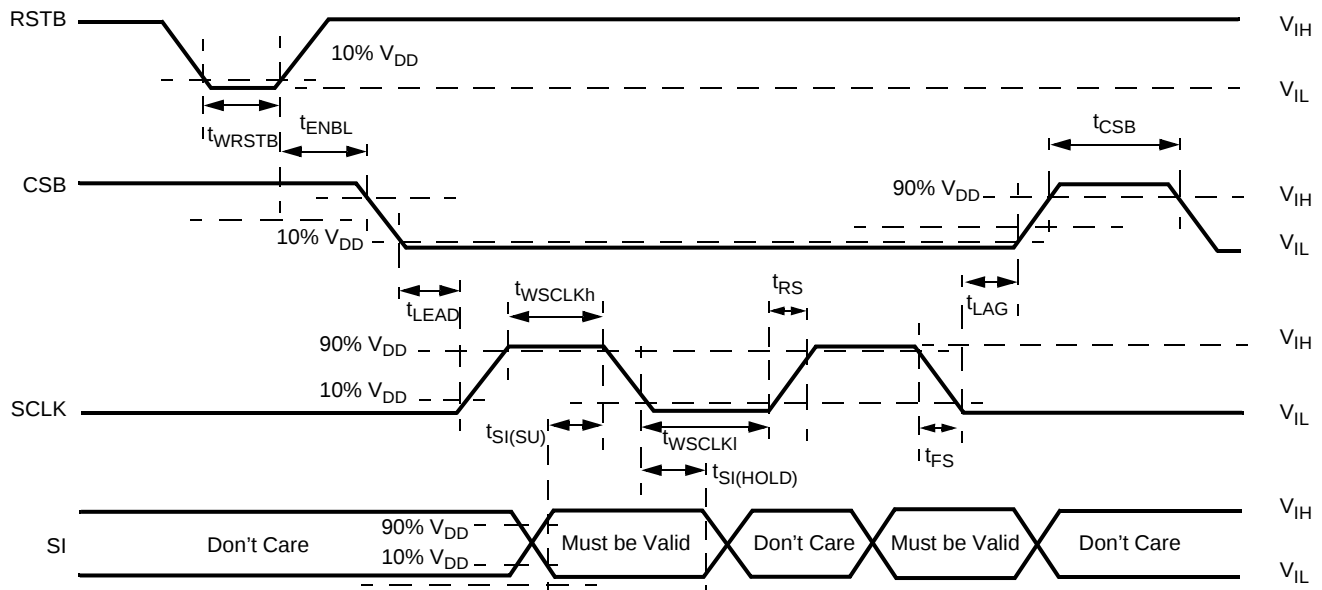

Figure 7. Timing Requirements During SPI Communication
Serial input (SI) data bits are shifted in at this pin. SI data is read on the falling edge of SCLK. 16-bit data packages are required on the SI pin (see Figure 7), starting with bit D15 (MSB) and ending with D0 (LSB). All the internal device registers are addressed and controlled by a 4-bit address (D9-D12) described in Table 10. Register addresses and function attribution are described in Table 11. The SI pin is internally connected to a pull-down current source,  $I_{DOWN}$ .